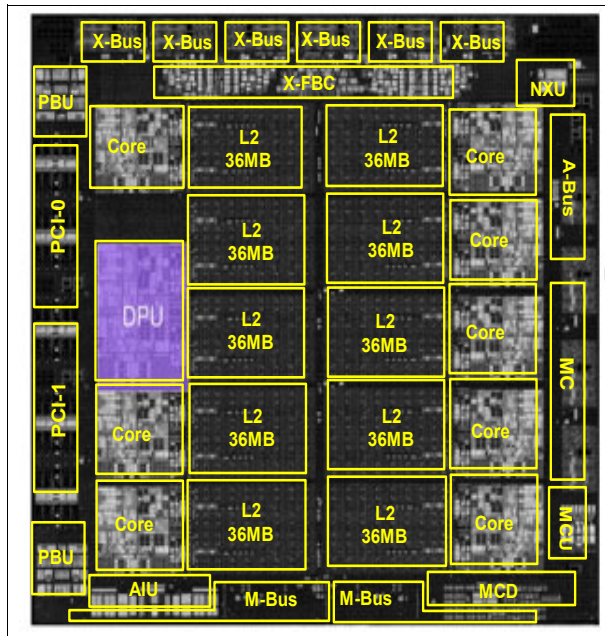

Figure 9-2 PU chip structure
- ▶ Each core has private L1 (instruction and data) caches and a semi-private L2 cache, which are 36 MB. The nine cores and L2 caches on the chip communicate through bidirectional high-speed on-chip ring and with all SMP, I/O, and memory interfaces (see Figure 9-2 on page 403).
- ▶ On-chip L2, caches are implemented in dense SRAM. The IBM z16 and IBM z17 removed the physical L3 (on-chip for IBM z15) and L4 (on extra storage controller single chip module - SC SCM) and implemented clustered cache algorithms that provide virtualized L3 (shared victim) and virtual L4 (shared victim) caches (see Figure 9-2 on page 403).